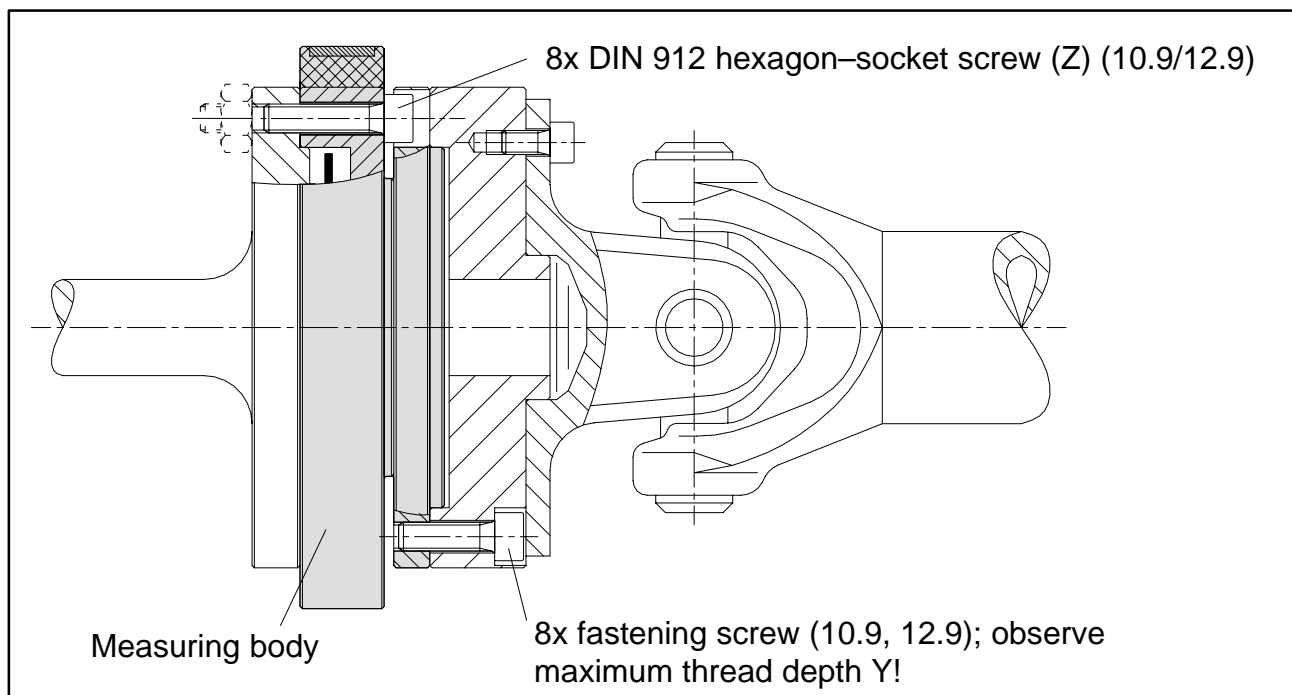

Fig. 4.1: Rotor screwed connection
The screw heads (Z), see Fig. 4.1, must not fit tight to the adapter flange. With alternating load: Use a screw locking device (e.g. LOCTITE no. 242) to glue the screws into the counter thread in order to prevent slackening and loss of pre–tensioning.